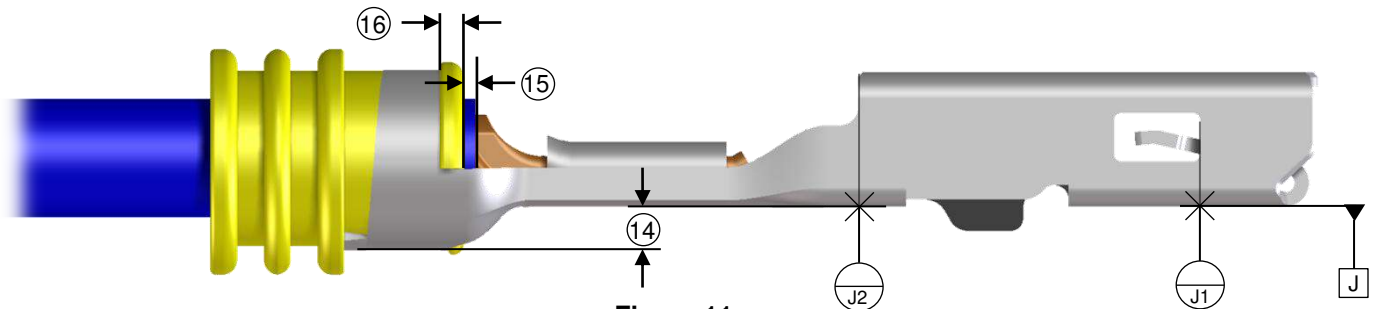

Figure 11
The insulation grip step is the designed offset between the conductor grip and the insulation grip. This dimension must be achieved after the crimp is performed (see Figure 11 and Table 4).
^⑮ The wire seal is positioned on the wire such that the wire insulation is visible between the conductor and seal by a minimum value specified in Table 4. This minimum requirement ensures that the seal is in no risk of being damaged, torn or crimped within the conductor grip area (see Figure 11).
^⑯ The wire seal is also positioned within the terminal insulation grip such that the wings are only crimped around the shaft of seal. The value specified in Table 4 ensures that the seal lips/glands are in no harm of being crimped within the insulation grip. The value is to be held during crimping, but will not be the final dimension due to the deformation of the wire seal involved in the crimping process (see Figure 11).